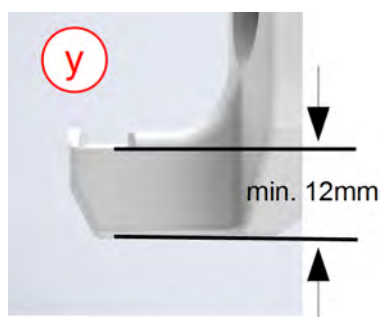

Abb. 1
| Grinding bowl tensioning device, Safe-Lock (5) (Fig. 1) | Rubber of the pressure piece and rubber disc in the grinding bowl holder | Signs of use; replace if pressed flat and no longer elastic | After every 1,000 h |
| | Indicated surfaces of Safe-Lock (Fig. 1) Original height 12.5 mm Minimum height 12 mm (y) | The areas indicated demonstrate a high degree of wear and do not meet the minimum height. | After every 200 h If the height is under the minimum height, the corresponding part has to be replaced. |